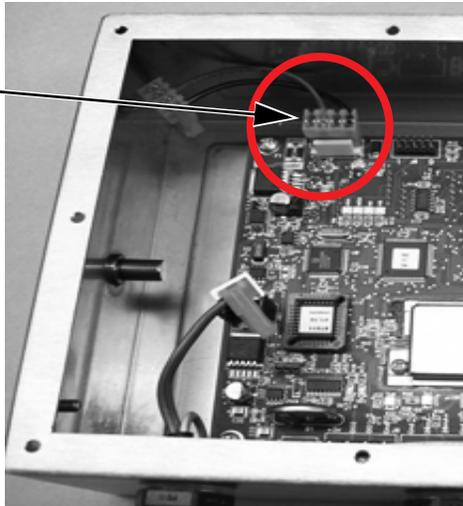

Figure 6. Plug into 420 Plus CPU Board
8. Carefully plug in the +7.5 VDC output side of the power supply to the CPU board. It's location is noted in Figure 6.